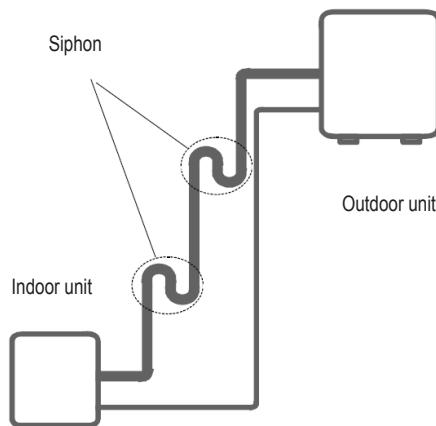

fig. 5 -
**Outdoor unit positioned on top and indoor unit on the bottom ("fig. 5 -").**